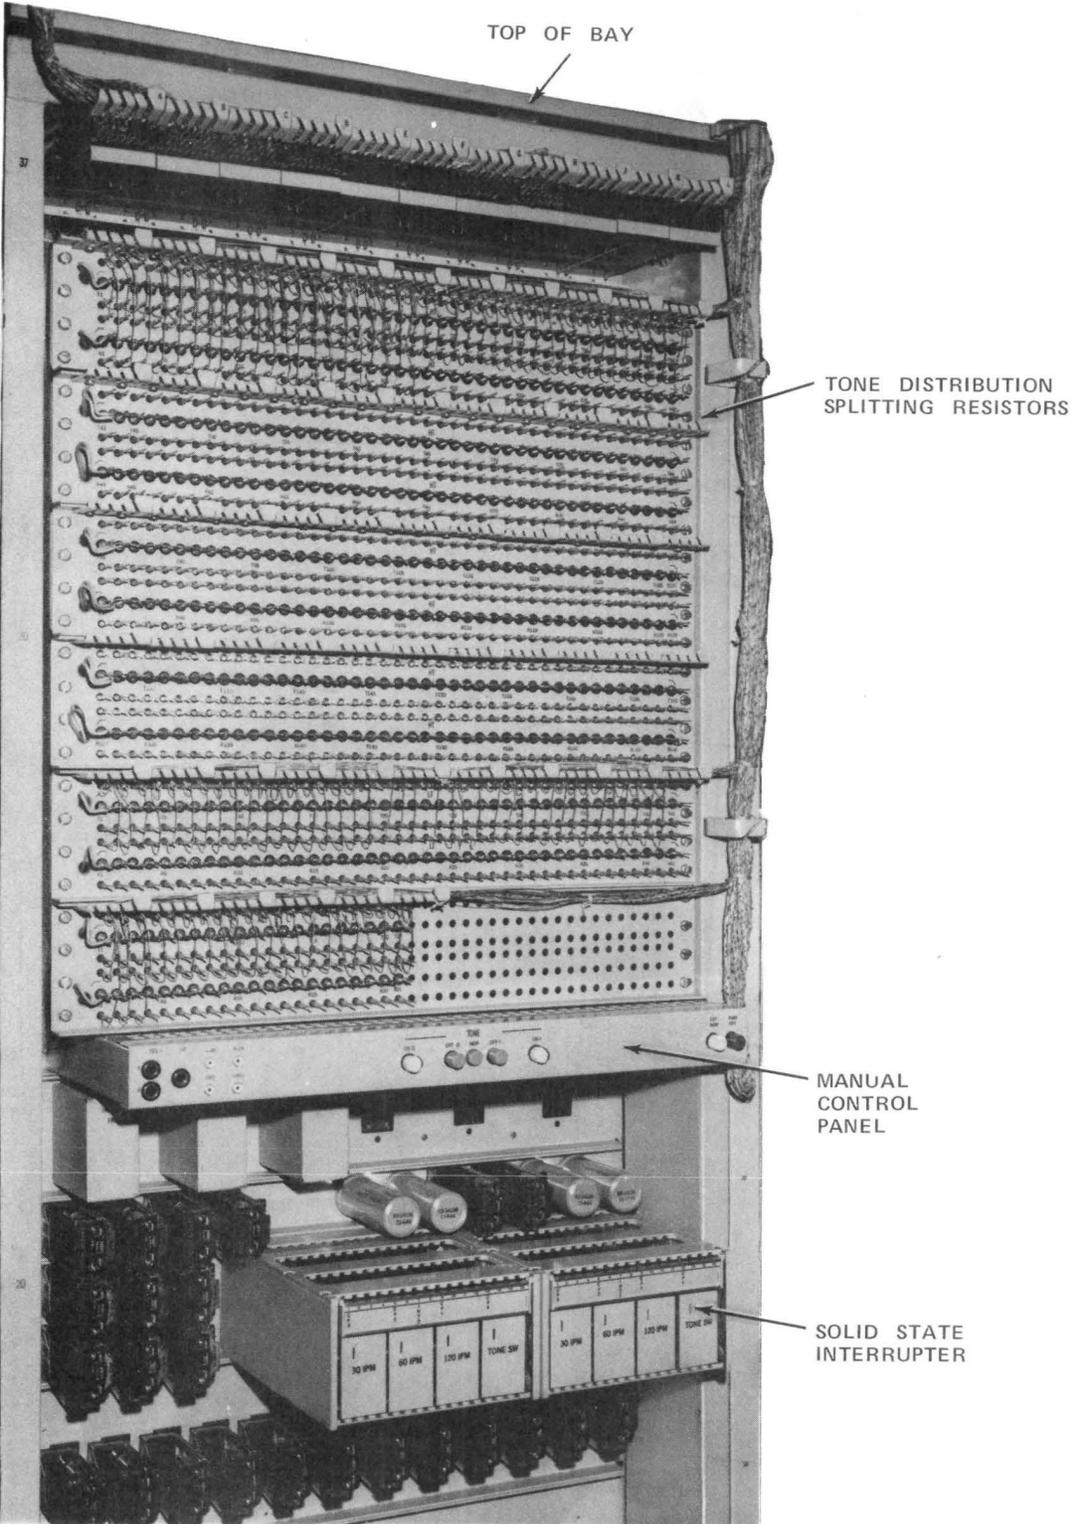

Fig. 1—Upper Portion of a Fully Equipped 807E Tone Power Plant
2.02 The equipment of the 807E tone power plant is as follows (Fig. 1 and 2):
2.08 The solid state interrupters (Fig. 1) are located on the upper right part of the bay above the two rows of control, test, and transfer relays on the bay. The interrupters provide the tones and signaling interruptions.